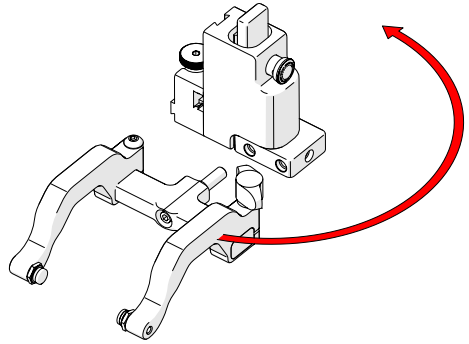

Fig. 179 - Orient to opposite side
2. Position the yoke and arms to the opposite side of the probe holder (Fig. 179).